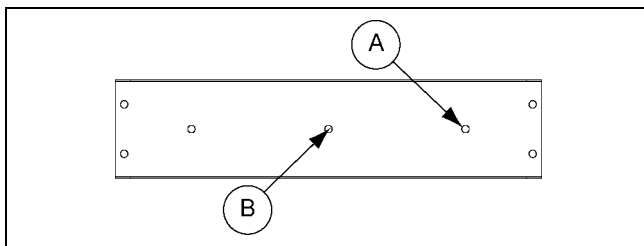

Figure 1 Centrifugal Shutter Top
1. Locate the mounting hole (A) for the handle bracket on the shutter frame top.
Centrifugal Shutters: Remove the rivet used to plug the hole (B). (See Figure 1.)